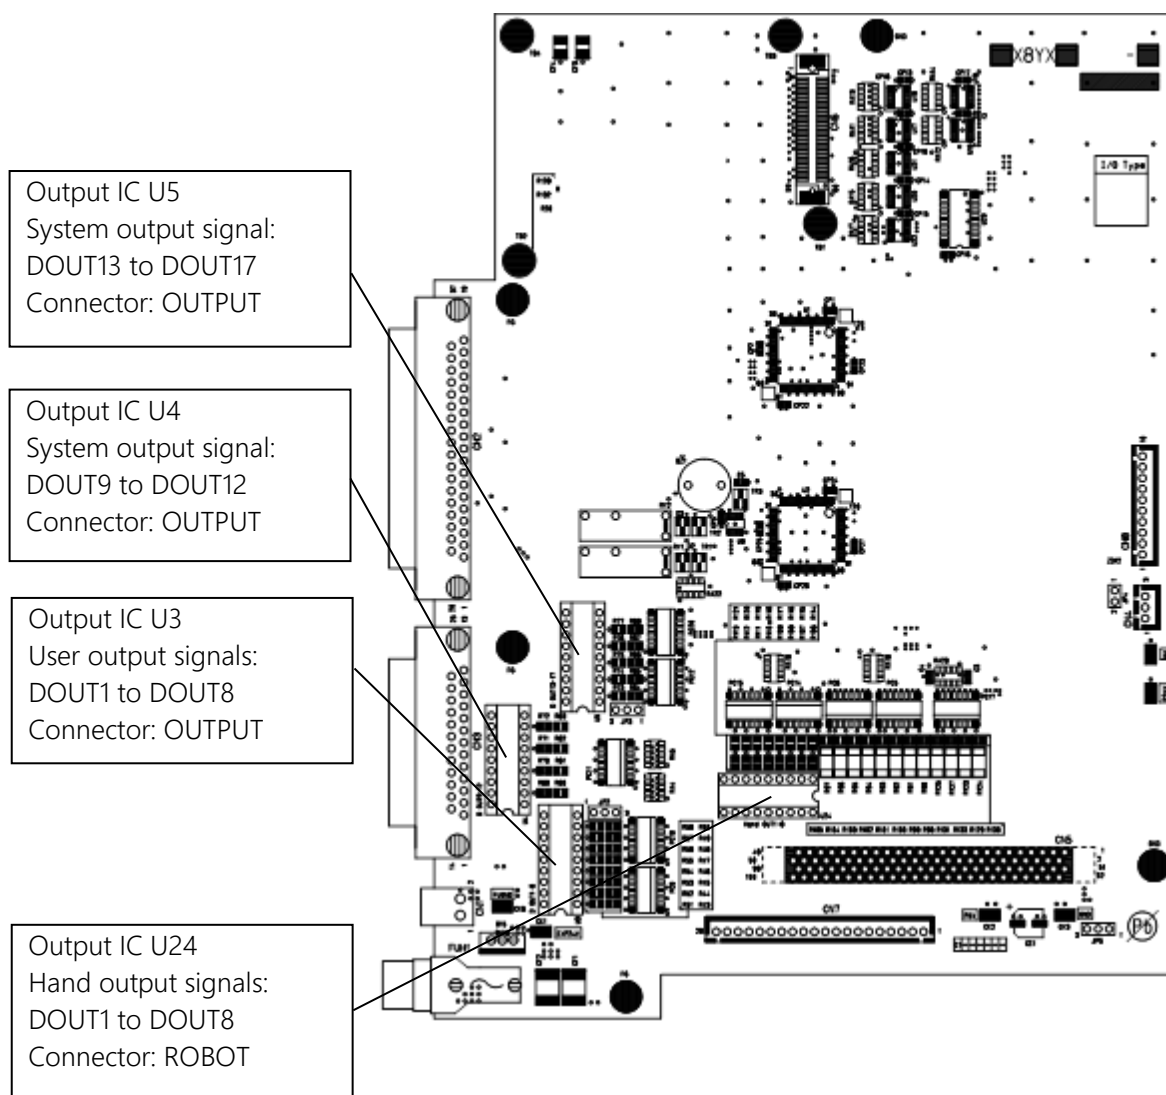

Figure 6.13 I/O board (X8YX)
- 6) Remove a transistor output IC from the socket as shown in Figure 6.13.